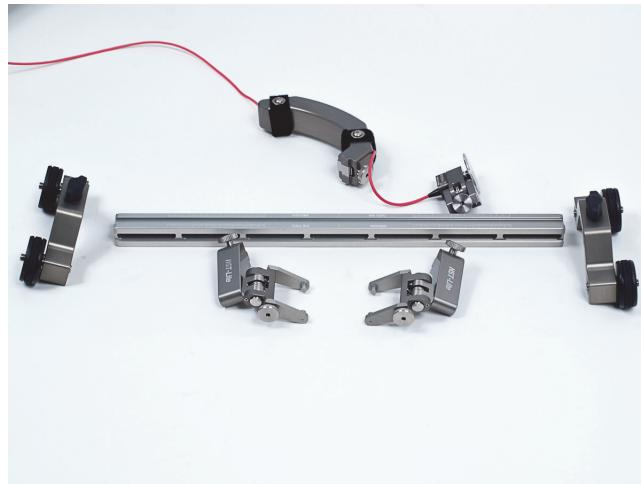

Figure 1-2 Disassembled scanner
1. Loosen the wheel block, the probe holder, the handle, and the wheel encoder thumbscrews, and then remove all the components from the frame bar (see Figure 1-2 on page 20).